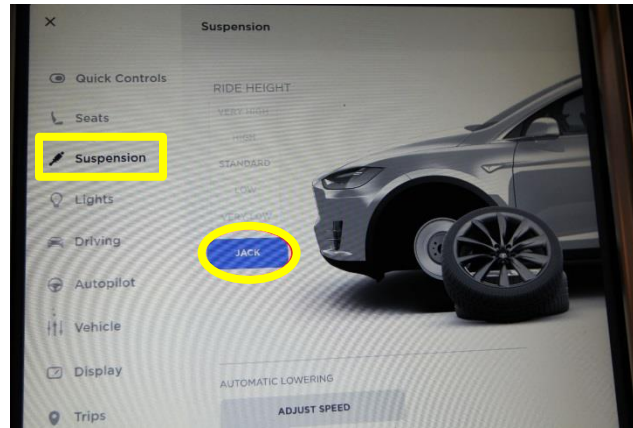

Figure 4 (Set Jack mode)
1. If the vehicle has an air suspension, on the vehicle touchscreen, touch Controls (vehicle icon), touch Suspension, press and hold the brake pedal and touch Jack to set Jack Mode (Figure 4).